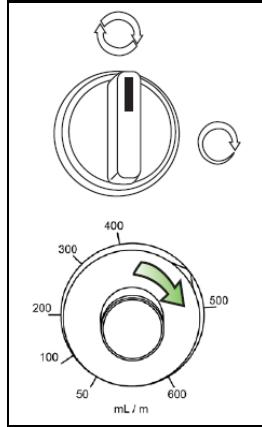

Figure 5-1
1. Calculate the NO dose based on the intended O₂ flow rate using the Lookup Tables (see section 6.12.2) or the On-Screen-Guide, and rotate the dose knob to the desired value (see Figure 5-1).